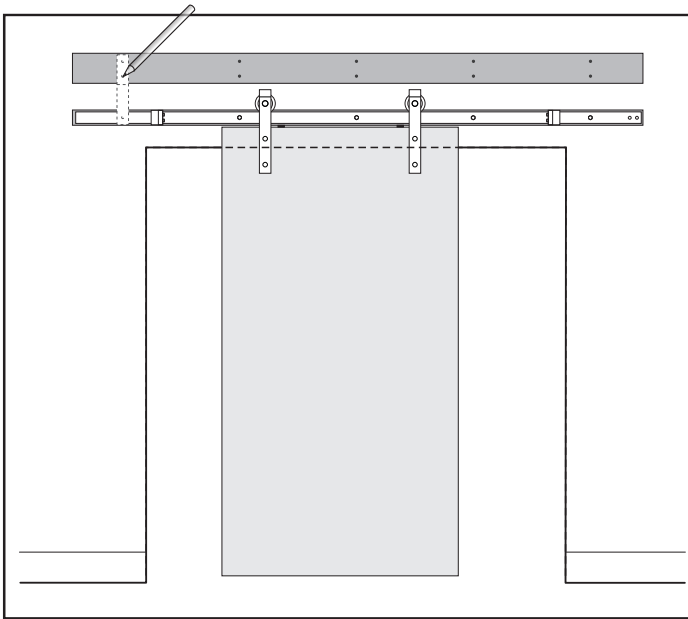

Figure 1
1. To install the bypass brackets, measure 5-5/8" from the centre of your existing installed track to the lower hole of a bracket on the second wood blocking, ensuring the bracket is centred. Draw two lines across the wood blocking as a guide for the remaining brackets (**Figure 1**).